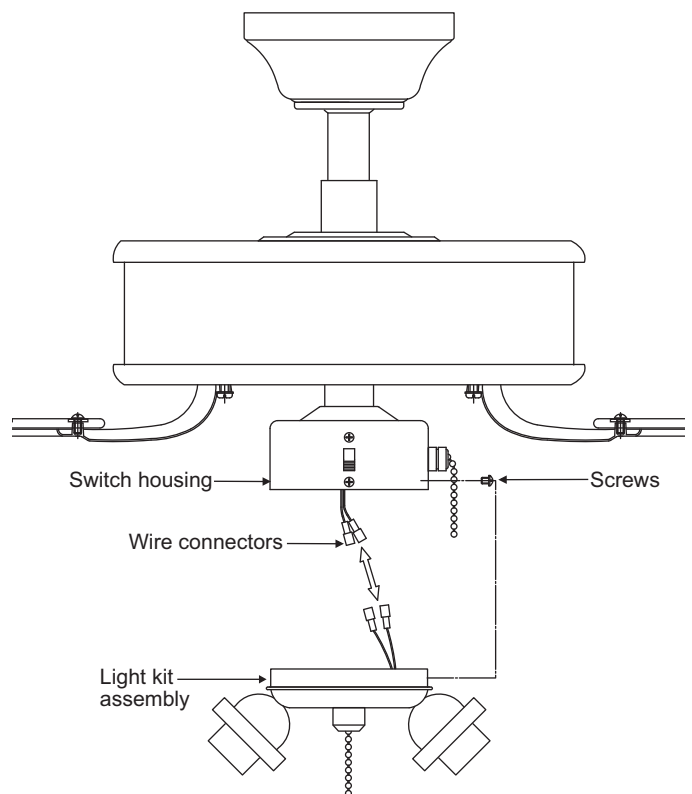

Figure 18
Step 2. Carefully push all wires back into the switch housing. Attach the light kit fitter by aligning its keyhole slots with the three screws holes and reversing switch on the side of switch housing. Tighten the three screws securely to prevent the light kit from vibrating loose. (Fig. 18)